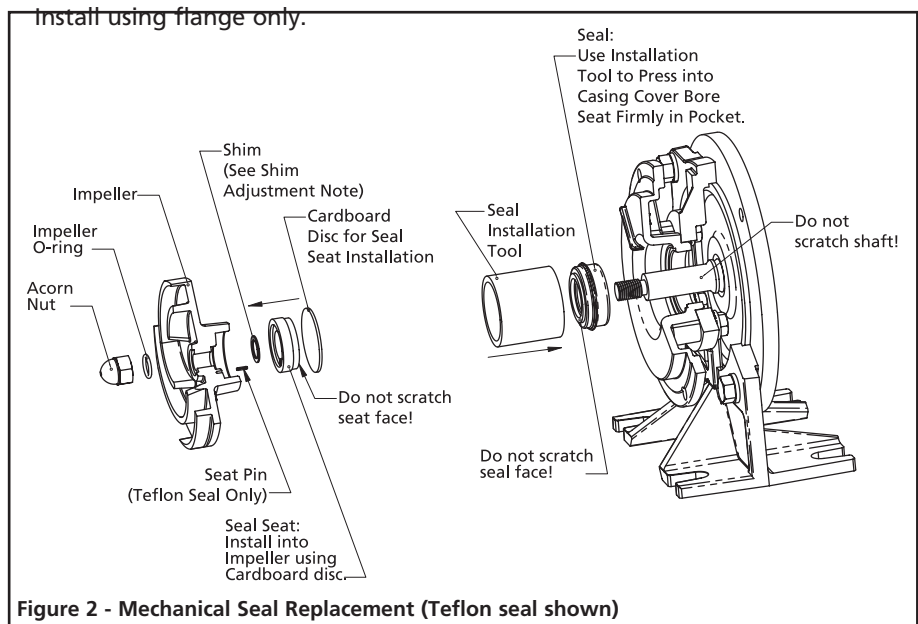

Figure 2 - Mechanical Seal Replacement (Teflon seal shown)
Refer to Figures 2, 3 and 4.
8. Apply a light coat of sealing compound to new seal cartridge (See Figure 2) and press it into the casing housing cover recess (Ref. No. 6) using the proper size tube or installation tool (See Figure 3). **DO NOT** press on carbon face or top of metal cup of the seal cartridge.
10. Press new seal seat (Ref. No. 11) squarely into the impeller recess (Ref. No. 13). Align slot in the seal seat with seal seat pin on Teflon-equipped units. Avoid scratching the ceramic surface. Use the cardboard washer (usually supplied with new seal) to place over the polished ceramic surface and use a piece of pipe or dowel rod to press in firmly but gently (See figure 2). Avoid scratching the ceramic face, usually white.